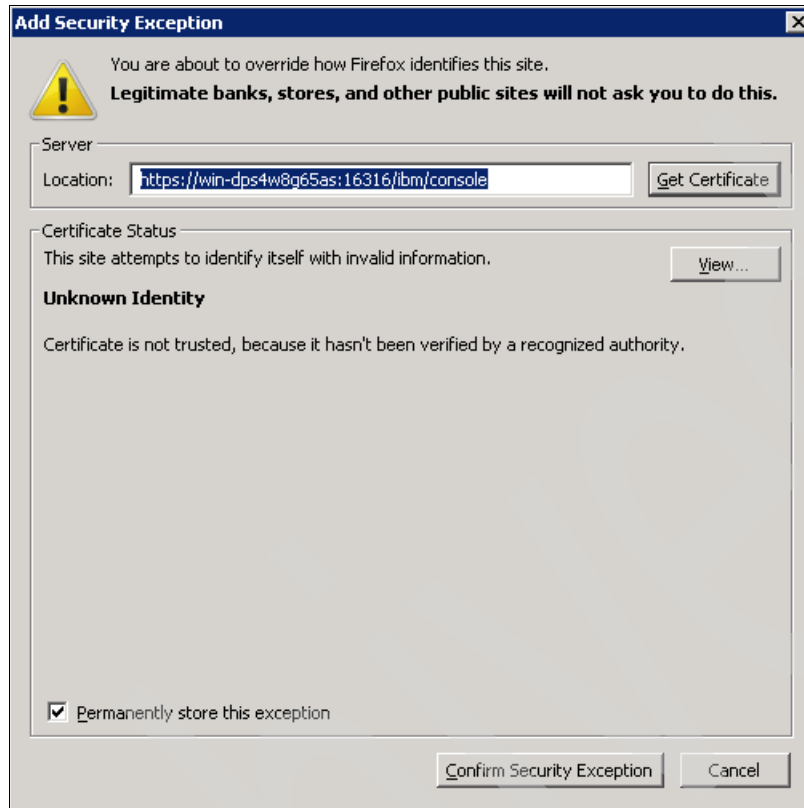

Figure 6-19 TKLM\_v2\_security
19. A Security Exception window will be displayed, prompting you to confirm the security exception (Figure 6-19).